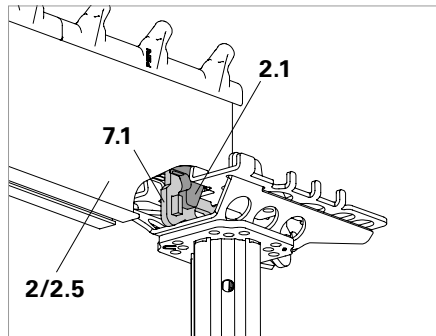
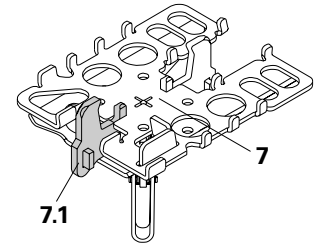

Fig. A5.10
Fig. A5.11
The Combihead (7) (Fig. A5.11) is a secure, non-movable and non-twisting support for:
- Main Beam SLT 225 (2).
- SLT 150 (2.5). (Fig. A5.10)
The Main Beam SLT must be mounted in the middle of the beam support of the SKYDECK Heads. The main beam connection (2.1) encloses the main beam support (7.1) of the head. (Fig. A5.10)